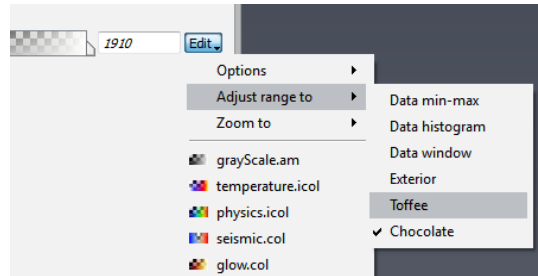

Figure 3.33: Adjusting range in a colormap port
- In the colormap port of the *Volume Rendering* module, you can press the Edit button or right-click in a color shaded area to choose a specific range in menu: entire data min-max, data window excluding *exterior ranges*, or specific range defined (see Figure 3.33). For instance, choosing Toffee will get the entire block back.